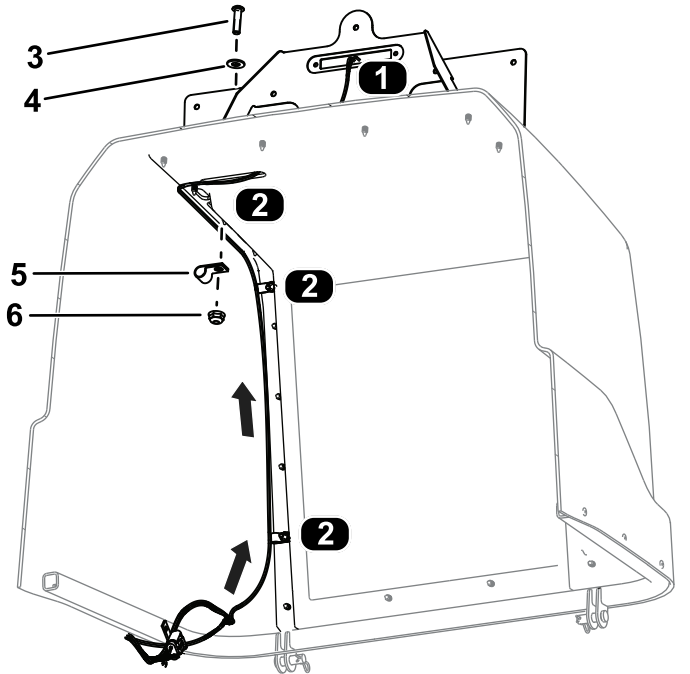

Figure 38
- Route the wire-harness connector labeled LICENSE LIGHT (J01, J02) through the hood and connect it to the license light (Figure 38).
- Secure the wire harness to the hood using 3 hex-socket screws (1/4 x 1 inch), 3 flat washers, 3 clamps, and 3 flange nuts (1/4 inch) as shown in Figure 38.